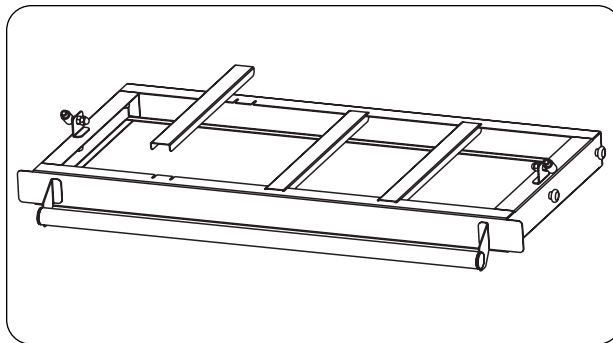

Figure 4. Installing Pan Dividers
4. The GRMW-3 and GRMW-4 series units are supplied with pan dividers. To install them, place the dividers in the channels provided. (See Figure 4.)